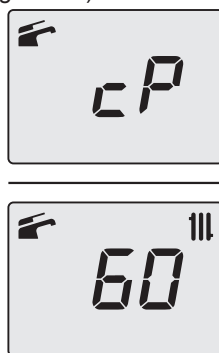

Fig. 10.24
- Press key 13 to vary the output in chimney sweep mode: when the LCD display displays the letters **cP** that alternate with the heating water temperature value (e.g.**60**), the "flue sweep function" is at maximum (eventually range rated) output in heating mode (Fig. 10.24).